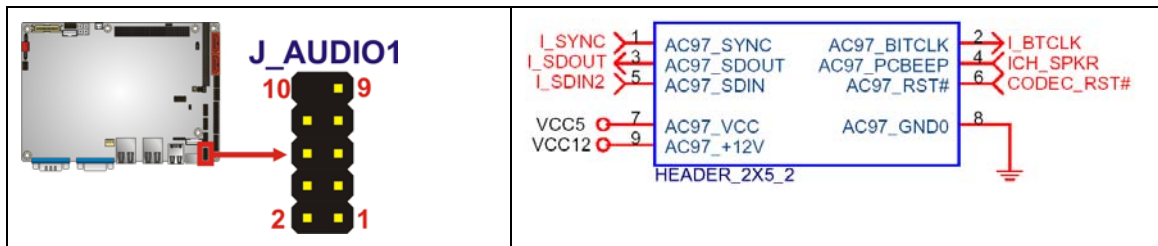

Figure 4-4: Audio Connector Pinouts (10-pin)
- CN Location:** See **Figure 4-4**